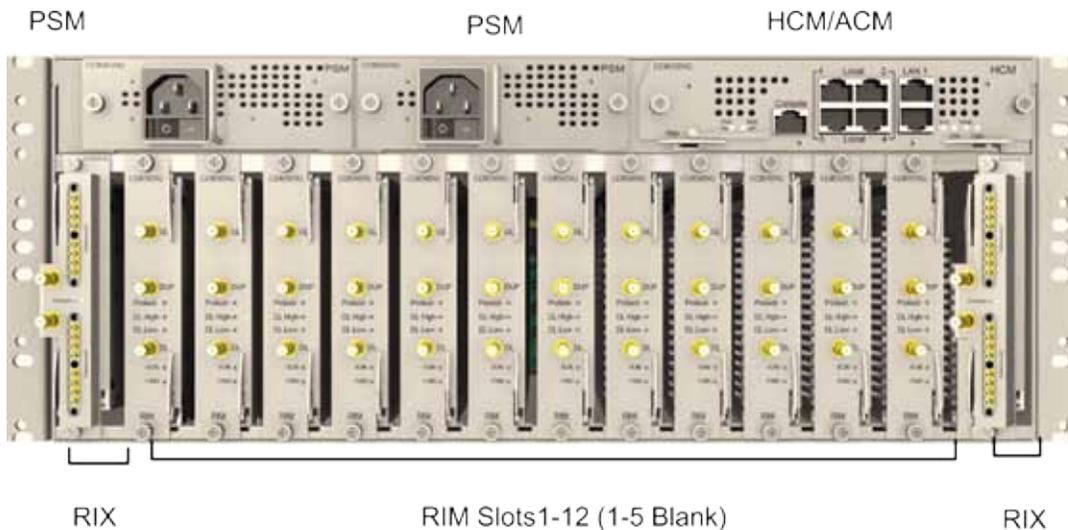

Figure 5-5. Example of occupied HEU
3. Refer to Figure 5-5 for module locations. Remove blank panel and slide in the relevant module (chassis slots are 100% mistake proof) as shown in Table 5-2 :